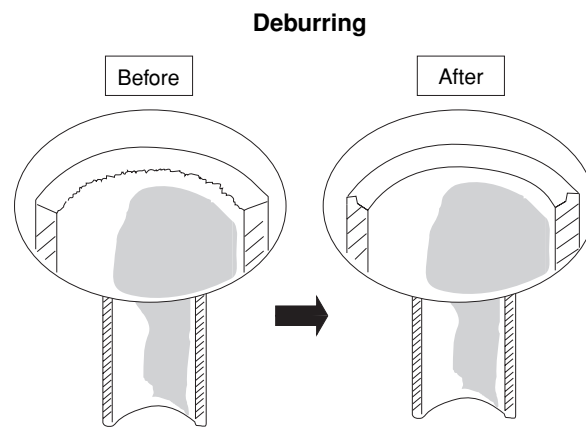

Fig. 5-1
- (1) Cut the copper tube to the required length with a tube cutter. It is recommended to cut approx. 1 – 2 ft. longer than the tubing length you estimate.
- (2) Remove burrs at the end of the copper tube with a tube reamer or file. This process is important and should be done carefully to make a good flare. (Fig. 5-1)